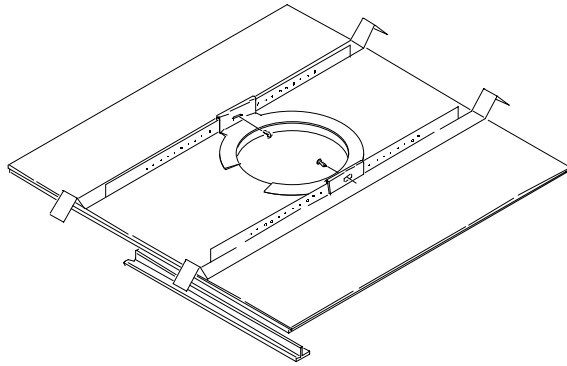

Figure 4:
**Suspended Ceilings** - Insert the C-plate through the hole cut in the ceiling tile. Place the C-plate around the hole with the tabs located as shown on Figure 4. Insert the tile rails through the cut hole in the ceiling tile. Snap the two rails into the two tabs in the C-plate and align the rails so that the ends extend OVER the T-channel grid on the upper side of the tile. Secure the rails onto the C-bracket tabs by inserting a screw through each tab into the rail. This can all be accomplished from below the ceiling tile, if necessary.